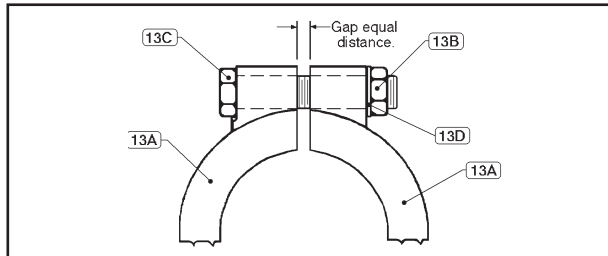

Figure 1: Clamp Arrangement.
4. Loosen clamp (13) and remove.
- a. **For Opt. -80** 2-piece clamp design See Fig 1: Loosen and remove clamp nuts (13B), washers (13D), bolts (13C) and clamps (13A).
5. Lift spring chamber (2) up off body (1) and set aside. Remove bearing seal (23). Lift up to remove adjusting screw assembly (5), spring button (4) and spring (7) off guide post (22).
- a. Place a wrench at the flats on the adapter (20) and rotate CCW to remove adapter (20), and guide post (22) from the plug (18).
- b. Remove pressure plate (3), diaphragm (14) and diaphragm spacer (38). **NOTE:** *Correct orientation of spacer (38) has the side with the I.D. radius towards the clamping surface of the plug.*
- c. Install diaphragm spacer (38) on plug (18). Place new diaphragm (14) with convolution side facing up, onto plug (18) and fit it around the diaphragm spacer (38).
- d. Lay pressure plate (3) on top of diaphragm (14).
- e. Apply a small amount of medium strength, Food Grade threadlocker to the threads of the adapter (20) and thread adapter (and guide post (22)) through parts and into plug (18) and tighten to 60 in-lbs of torque.
- f. Replace plug/guide post assembly of parts back into body (1). Align tab on diaphragm with the tab slot cut in the body flange lip.
- g. Place spring (7) over guide post (22) and fit it around adapter (20).
- h. Return spring button(4) with adjusting screw assembly (5) and bearing (23) down over guide post (22) onto spring (7). Align one tab (ear) on spring button (4) directly above tab slot in the body flange lip.
- i. Align the two ribs inside the spring chamber (2) with the tabs on the spring button (4) and place the spring chamber (2) over assembled parts directly on body (1).
- j. Position the Tri-Clamp (13) around the mating flanges of the body (1) and the spring chamber (2) with the threaded fastener aligned with the tab slot cut in the body flange lip. Clamp should be tightened to approximately 4 to 6 ft-lbs. (Apply same torque for Opt.-80) - See Figure 1.
- k. Place load collar (19) and adjustment nut (6) or handle (36) over guide post (22).
- l. Place lever (16) over guide post (22) and insert quick release pin (15) through holes in lever and post.
- c. Turn adapter (20) CCW and remove pressure plate (3), diaphragm (14) and diaphragm spacer (38). **NOTE:** *Correct orientation of spacer (38) has the side with the I.D. radius towards the clamping surface of the plug.*
- d. Reinstall diaphragm spacer (38) on plug (18). Place new diaphragm (14) with convolution side facing up, onto plug (18) and fit it around the diaphragm spacer (38).
- e. Lay pressure plate (3) on top of diaphragm (14).
- f. Apply a small amount of medium strength, Food Grade threadlocker to the threads on the plug (18) and secure adapter (20) to plug (18). Tighten to 60 in-lbs of torque.
- g. Secure guide post (22) to threaded end of plug (18) hand tight. Adjust final rotation to ensure that the set screw (37) will lock firmly against one of the surface flats on the plug (18).
- h. Apply a small amount of medium strength, Food Grade threadlocker to the threads of set screw (37) and thread tight into guide post.
- i. Replace plug/guide post assembly of parts back into body (1). Align tab on diaphragm with the tab slot cut in the body flange lip.
- j. Place spring (7) over guide post (22) and around adapter (20).
- k. Return spring button(4) with adjusting screw assembly (5) and bearing (23) down over guide post (22) onto spring (7). Align one tab (ear) on spring button (4) directly above tab slot in the body flange lip.
- l. Align the two ribs inside the spring chamber (2) with the tabs on the spring button (4) and place the spring chamber (2) over assembled parts directly on body (1).
- m. Position the Tri-Clamp (13) around the mating flanges of the body (1) and the spring chamber (2). Align the threaded fastener with the tab slot cut in the body flange lip. The clamp should be tightened to approximately 4 to 6 ft-lbs. (Apply same torque for Opt.-80) - See Figure 1.
- n. Place load collar (19) and adjustment nut (6) or handle (36) over guide post (22).
- o. Position lever (16) over guide post (22) and insert quick release pin (15) through holes in lever and post.
- Clamp the plug (18) at the flats on the plug in a smooth jawed vice.
- a. Remove set screw (26).